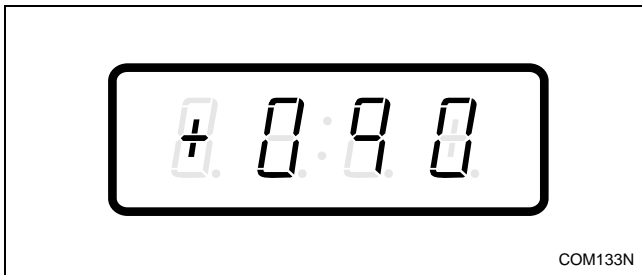

Figure 136
- Press the DELICATES (+) or the COLD (-) keypad to scroll through the programmable options until “+090” appears in the VFD. Refer to *Figure 136*.